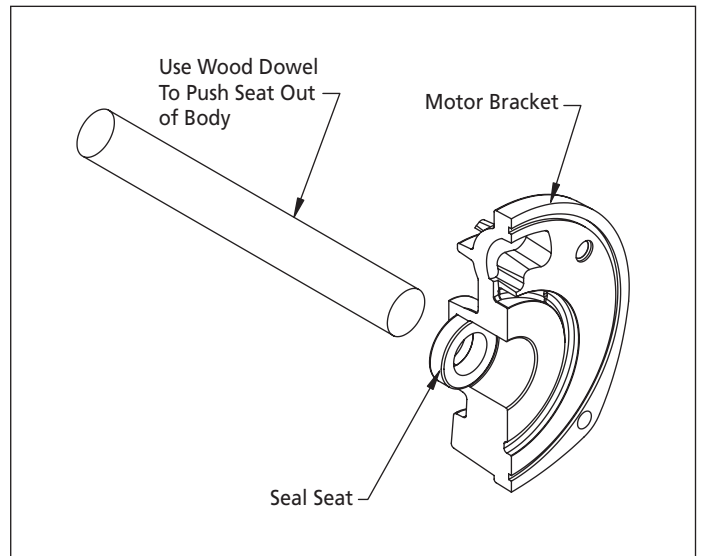

Figure 5 - Seal Seat Removal
5. Remove the motor bracket, and push out the seal seat with a wooden dowel to remove the seal seat (See Figure 5).
SEAL ASSEMBLY REMOVAL AND INSTALLATION (FIGURES 5 THRU 8)